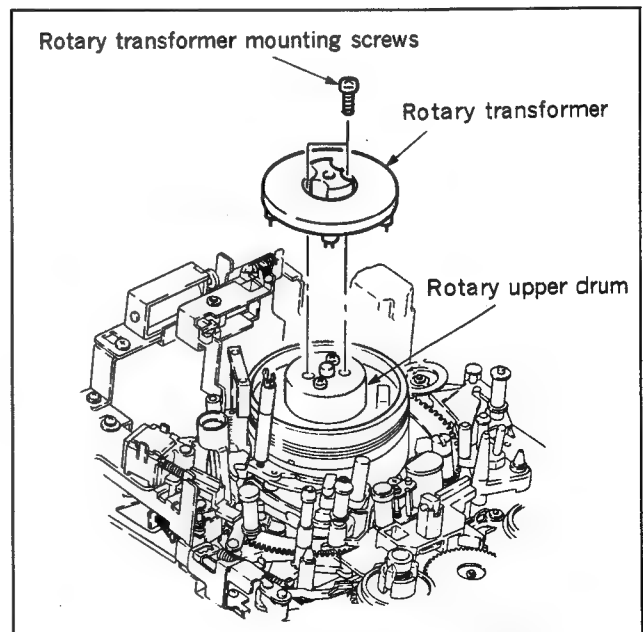

Fig. 4-2-3 Rotary transformer (rotor) removal
5. Rotary transformer (rotor) removal (Fig. 4-2-3)